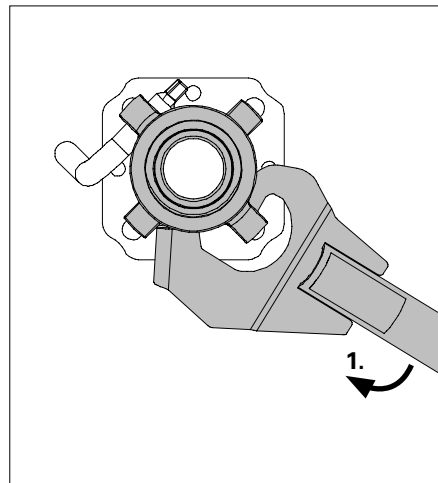

Fig. A2.03
- Wingnut Spanner PEP Item no. 118345. (Fig. A2.03/A2.03a)